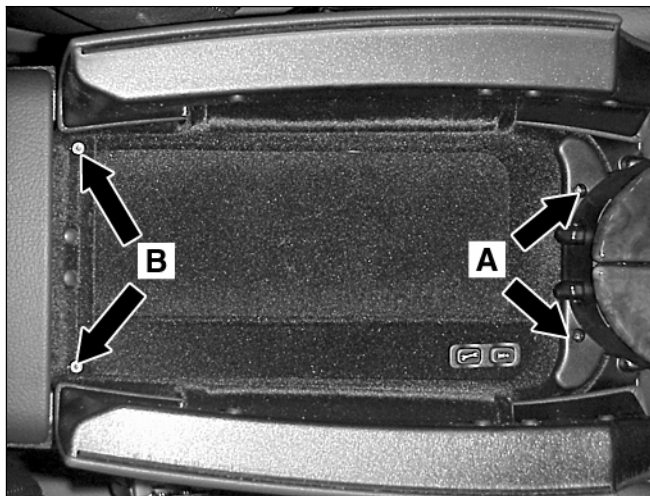

Figure 7
2. Remove the release button assembly for the upper compartment doors by removing the two T10 Torx screws (A, Figure 7)
3. Remove the two T8 Torx screws securing the false floor to the upper compartment (B, Figure 7).